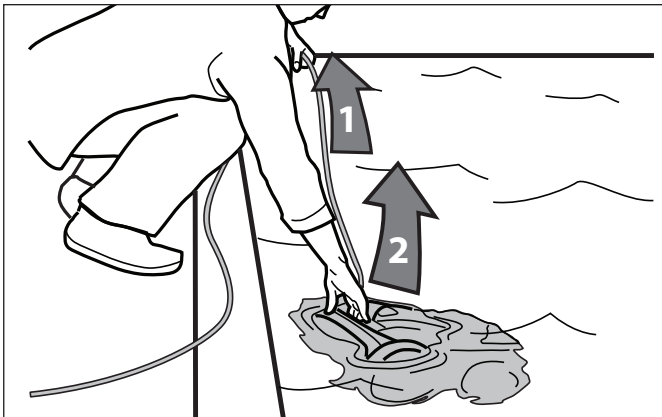

Figure 18. Remove Cleaner From Pool
1. After the cleaning cycle is completed, the four (4) lights located on the control unit will flash slowly to indicate that the cleaner may be removed from the pool.
4. Never lift the 9300xi Sport out of the pool by the floating cable. Always use the handle to remove it from the pool. Refer to Figures 18 and 19.